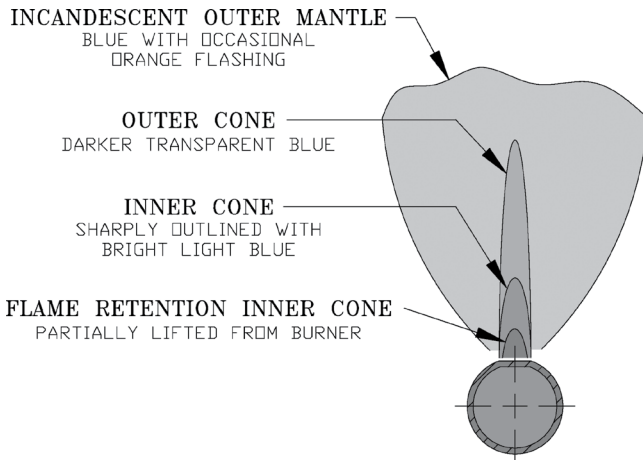

Figure 11-4: Main Burner Flame
11. Check Main Burner Flame - See Figure 11-4. Flame should have a clearly defined inner cone with no yellow tipping. Orange-yellow streaks caused by dust should not be confused with true yellow tipping.